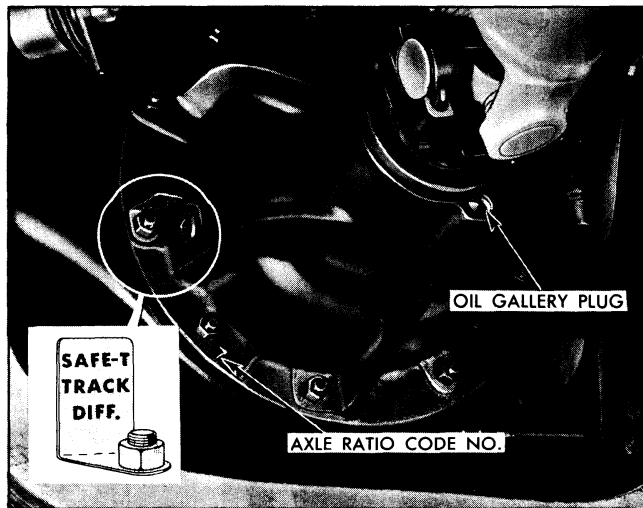

Fig. 4-14 Carrier Oil Gallery Plug
2. Thread a half inch bottom tap into plug (Fig. 4-14) until plug starts to turn and remove plug by turning tap and pulling at same time.